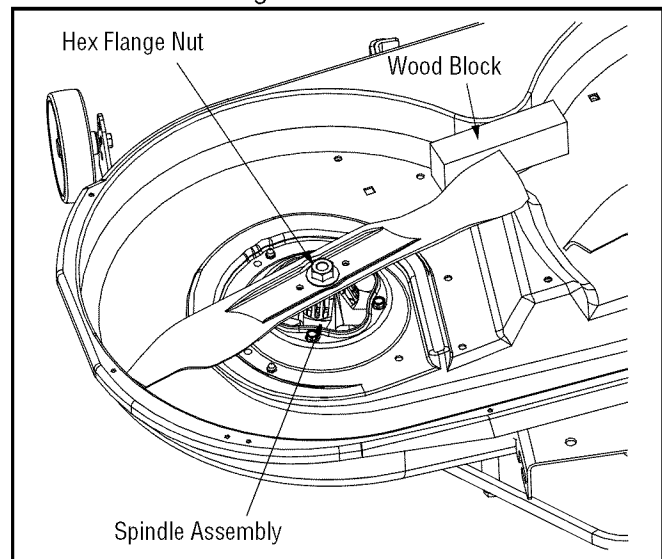

Figure 18
- Place a block of wood between the center deck housing baffle and the cutting blade to act as a stabilizer. See Figure 18.
- Remove the hex flange nut that secures the blade to the spindle assembly. See Figure 18.